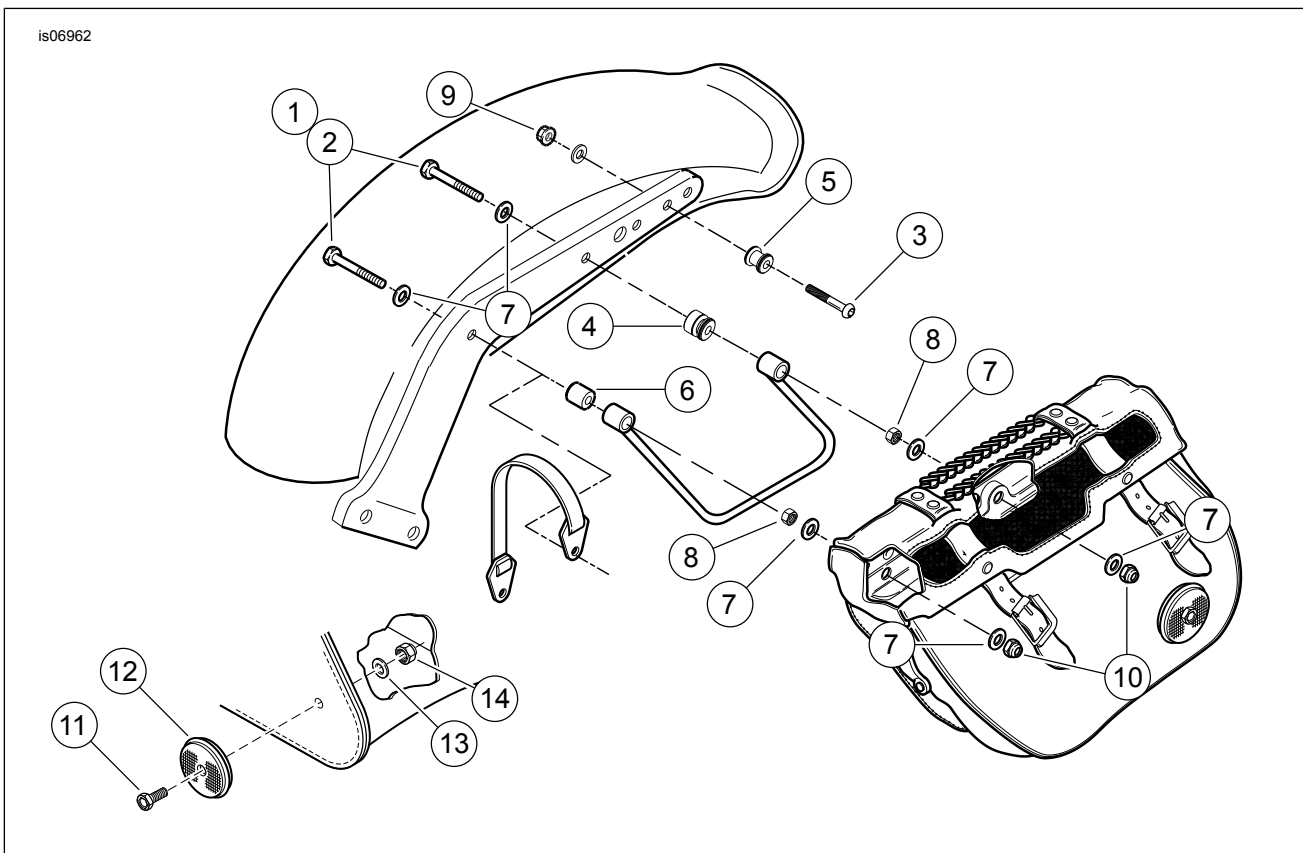

Figure 2. Service Parts: Softail Docking Hardware Kit
See Figure 2 and Table 1.
See Figure 2. The rear docking point (5) is wider than the front docking point (4).
1. See Figure 2. Align round reflector (12) with saddlebag. Mark reflector mounting position on saddlebag.
3. Install screw (11) to reflector (12) and insert screw to saddlebag. From inside saddlebag install washer (13) and nut (14) and tighten as needed.
1. See Figure 2. Place washer (7) on bolts (1 or 2).
3. Place washer (7) on bolts (1 or 2) for bags with molded plastic back. If bolts extend through metal plate on inside of bag, washer is not required.
4. Secure saddlebag with locknut (10). Torque locknut to 37 N·m (27 ft-lbs).